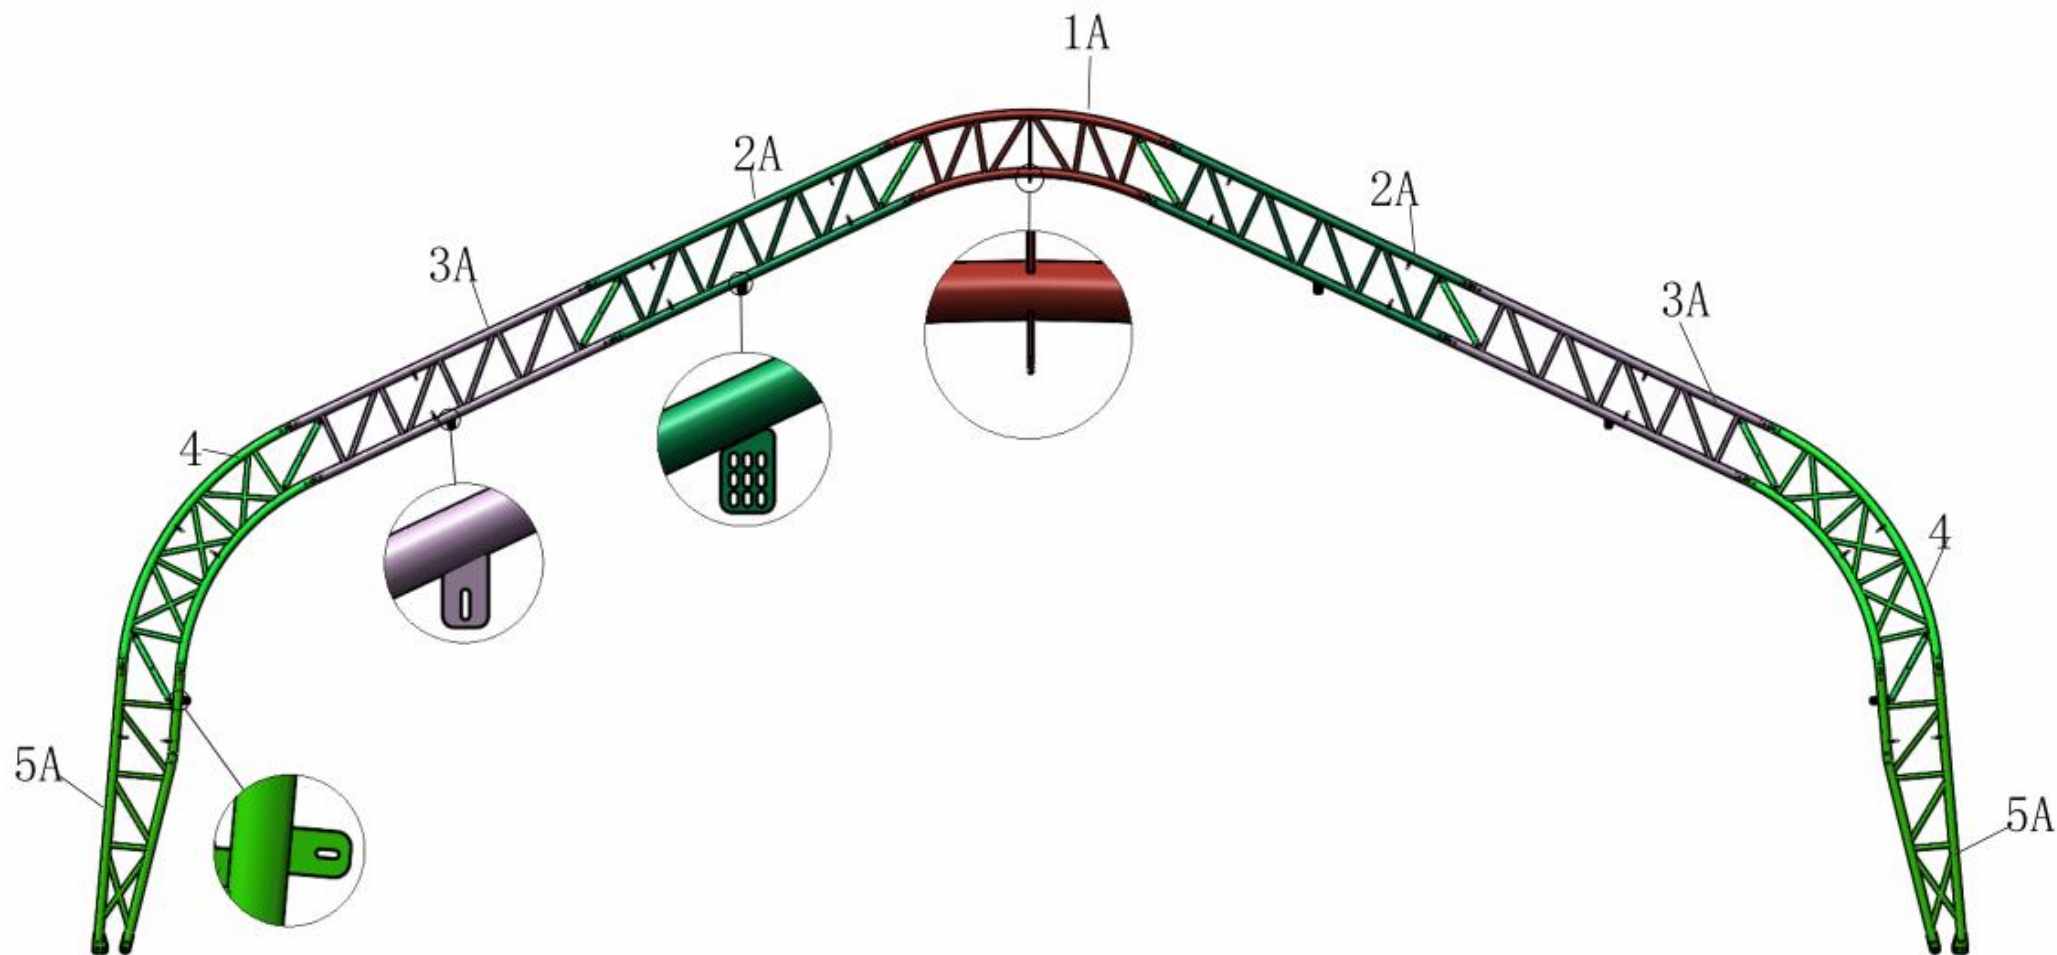

Figure 2
1. As Figure 2 shown to find one Top roof tube in the front and back door (No.1A), two Roof upper curving tube in the front and back door(No. 2A), two Roof side lower curving tube in the front and back door (No. 3A) ,two Shoulder curving tube(4) , two Curving tube in front and back door (5A)and assemble the first group and final group of arch with Supporting Tube between the arch (No.6). **DO NOT install the screw on the top**